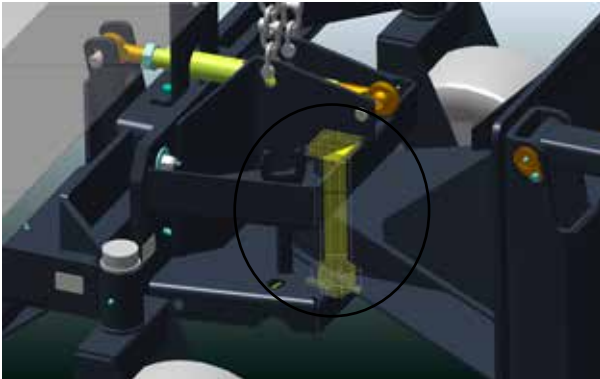

Figure 3
3. Pin broom and hitch assembly together using supplied center pin, nut, and cotter pin. See Figure 3